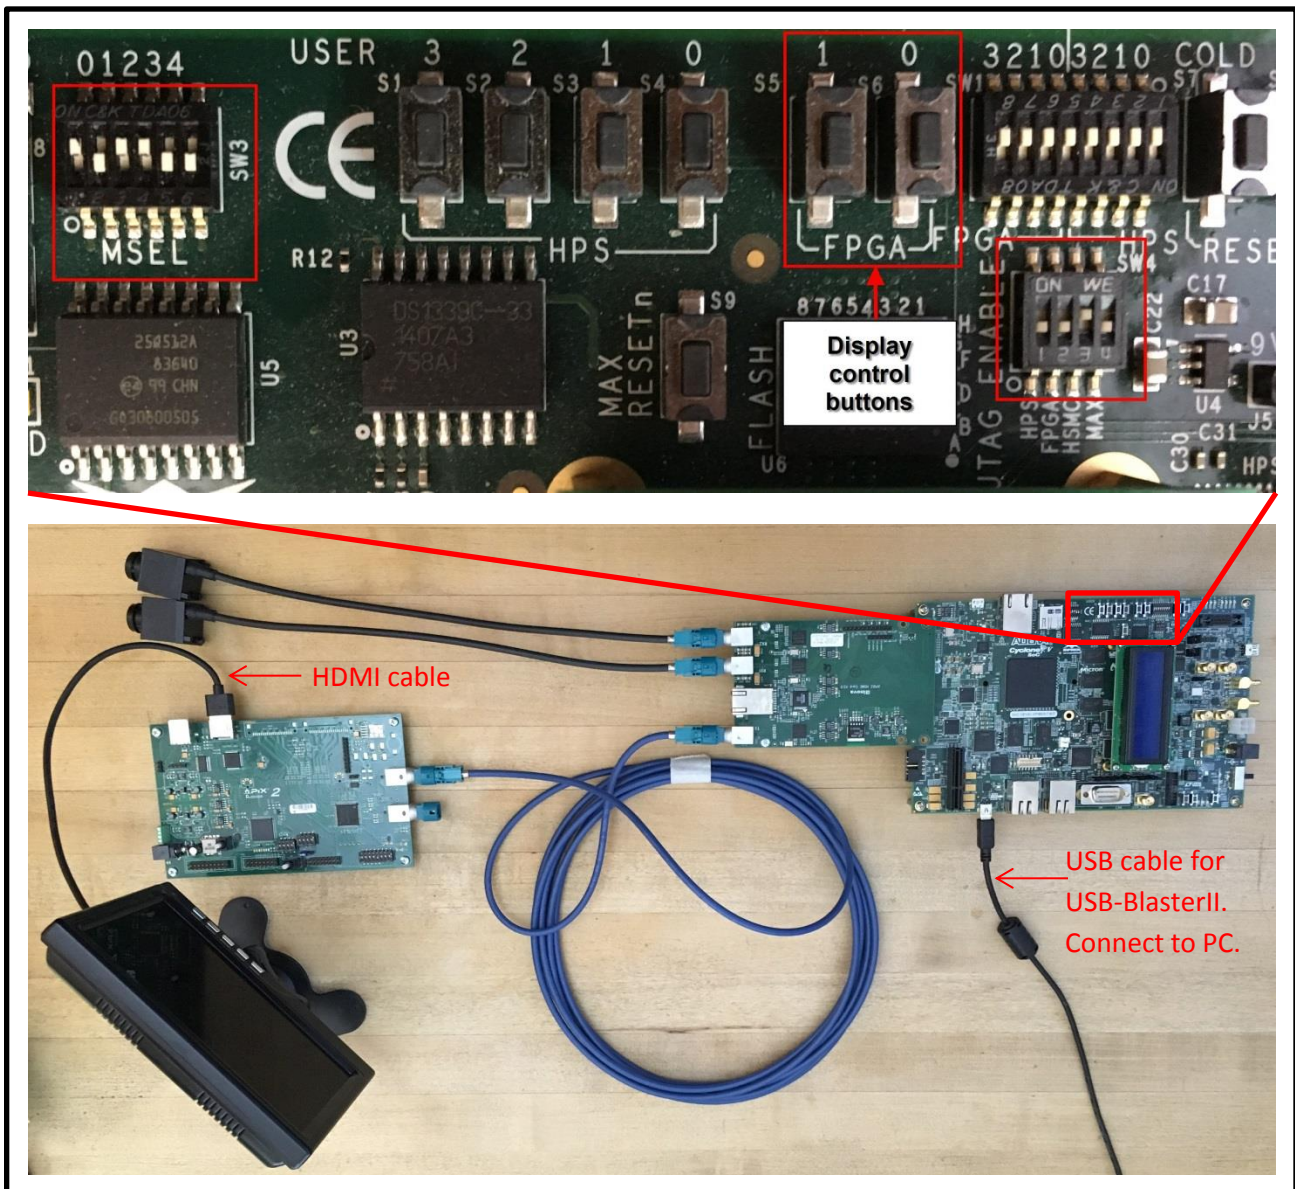

Figure 3. System assembly and switch settings.
Figure 3 shows the assembled system (sans power supplies) and switch settings.
1. Assemble the system. Refer to Figure 3 for correct assembly and switch settings.
Pressing Button 1 (refer to Figure 3) will toggle between automatic and manual cycling between display modes. When manual cycling is selected pressing Button 0 will advance to the next display mode.
1. Modify the hardware assembly as shown in Figure 3 by disconnecting the link cable from the HDMI board and the link cable from the RX1 connector on the HSMC card. Connect the link cable from the TX1 connector on the HSMC card to the RX1 connector on the HSMC card. The camera can remain connected to the RX2 connector on the HSMC card but is not required for the diagnostic design.
Two pushbuttons (labelled Display control buttons in Figure 3) are used to inject and clear errors as follows: